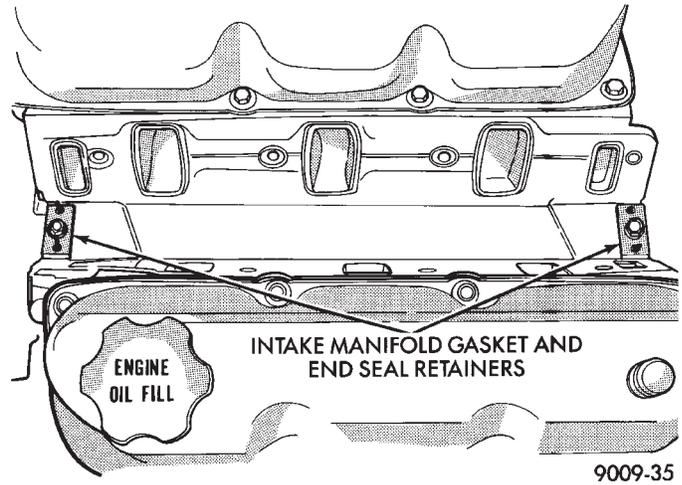

Fig. 14 Intake Manifold Gasket
(24) Remove intake manifold seal retainers screws (Fig. 14). Remove intake manifold gasket.
(3) Carefully install the intake manifold gasket (Fig. 14). Torque end seal retainer screws to 12 N•m (105 in. lbs.).